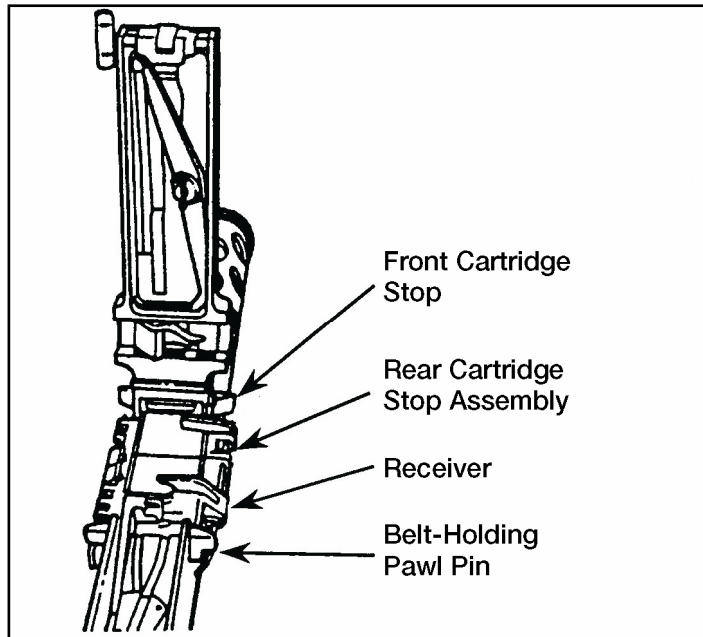

Figure 071-022-0001-20. Removal of the cartridge stop assemblies
(2) Press down on belt-holding pawl assembly to prevent loss of springs, and remove the belt-holding pawl pin. Remove belt-holding pawl assembly and springs (figure 071-022-0001-21).